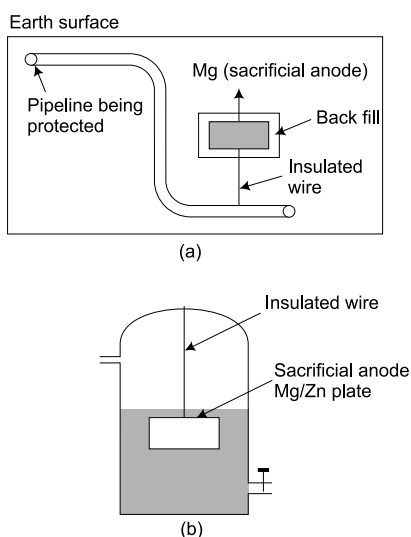

Fig. 1.19 Galvanic protection using sacrificial anode
- (i) Protection of buried pipelines and underground cables from soil [Fig. 1.19(a)].
- (iii) The formation of rusty water is prevented by insertion of Mg sheet/rod into domestic water boiler/Tanks [Fig. 1.19(b)].